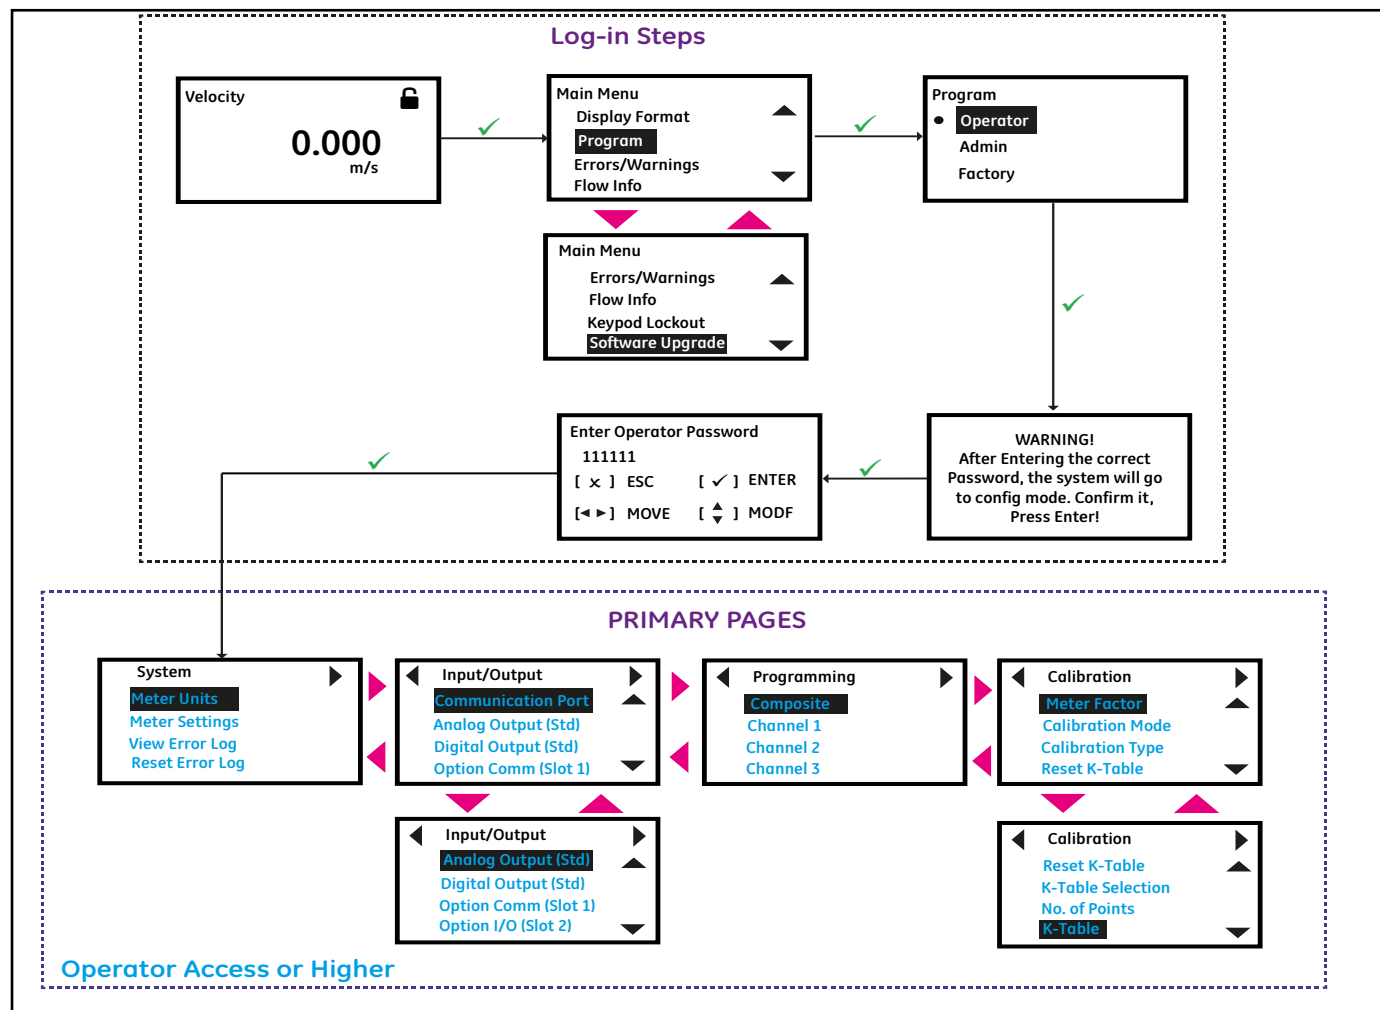

Figure 16: Log-in Steps and Primary pages
5. After completing the log-in steps you will see the primary pages as shown in the Figure 16. To move from one page to the next, press [◀] or [▶] and to scroll to options within a page press [▲] and [▼].